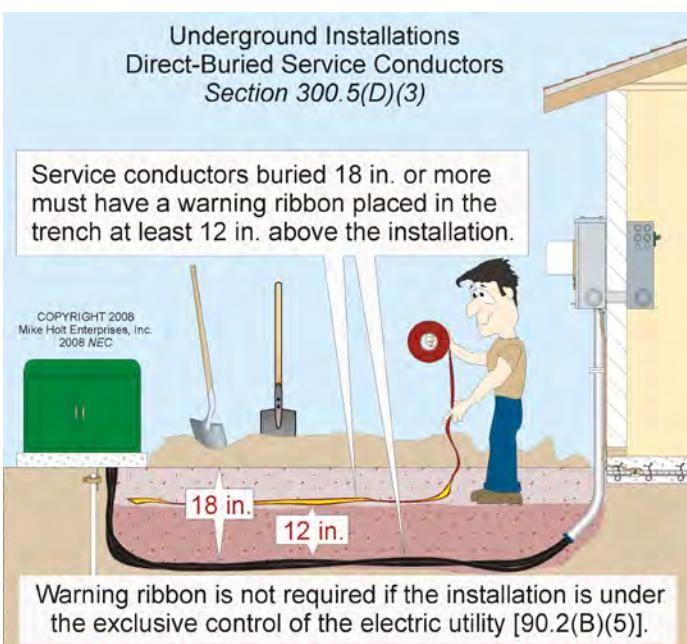

Figure 300-12
(3) Service Lateral Conductors. Direct-buried service-lateral conductors that aren't under the exclusive control of the electric utility, and are buried 18 in. or more below grade, must have their location identified by a warning ribbon placed in the trench not less than 1 ft above the underground installation. **Figure 300-12**